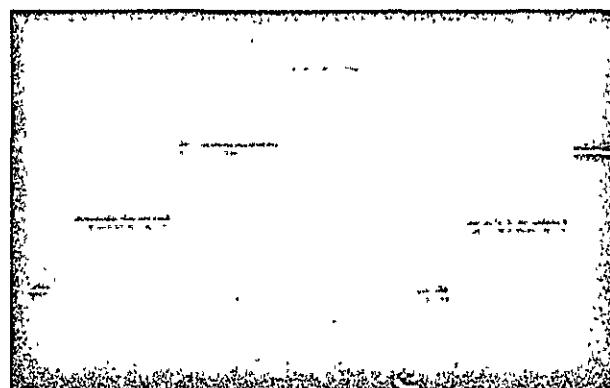

Figure 3-3. SPLITTER V/A INPUT 3-step test signal with interleaved pedestal only, no audio modulation
3.3.2.2.2 Splitter V/A Input, Interleaved Pedestal Only, No Audio Modulation (Refer to Figure 3-3)